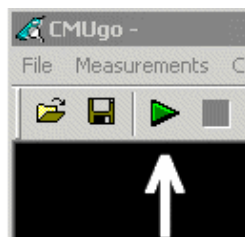

Fig. 5.11\_6: Start icon in the menu bar of CMUgo
- 15) Click the *start icon* in the menu bar of CMUgo (Fig. 5.11\_6).
Once the start icon is clicked, the *Measurement Report* window opens; see Fig. 5.11\_7. It shows the names and conditions of the test, the limits, and the results. You can see the list of test items that will be performed. However, to optimize speed, the report window is not updated before the last measurement of the last test item has been finished. As long as the tests are running, all test items are indicated as *not performed* in the *Measurement Report* window.